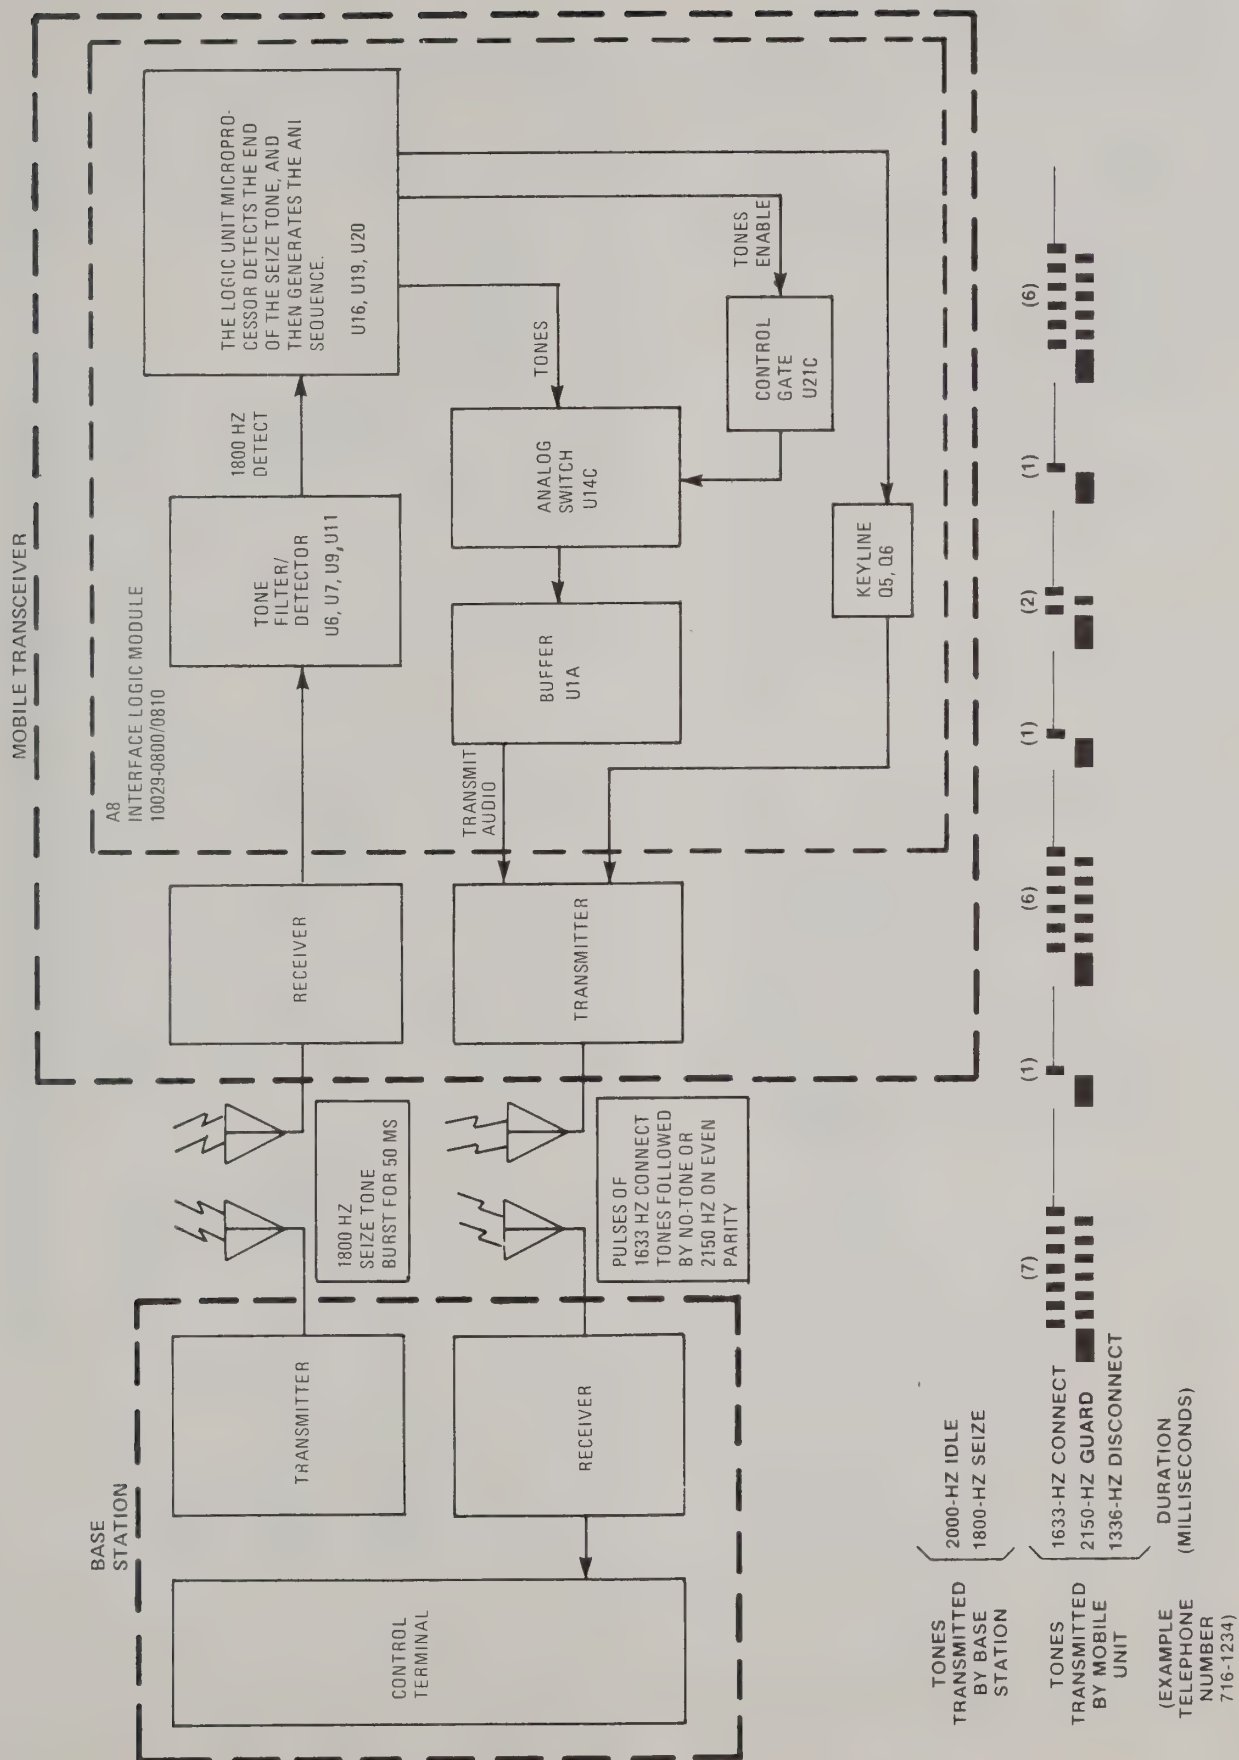

Figure 11. Functional Block Diagram, IMTS Mode, Mobile-to-Landline Call Sequence, Connect, ANI Outpulsing
- (2) Transmission of ANI. (Figure 11)